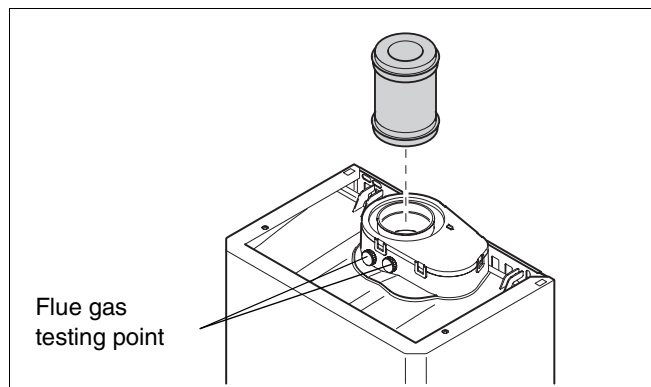

fig. 14 Vertical flue connection
- Fit the vertical flue gas duct or flue gas adaptor (80/125 to 60/100) (fig. 14) onto the appliance flue connector.